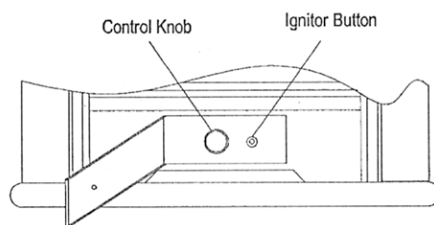

Figure 11 - Control Knob and Ignitor Button location
4. Wait five (5) minutes to clear out any gas. Then smell for gas, including near the floor. If you smell gas, STOP! Follow "B" in the safety information on page 2. If you don't smell gas, go to the next step.
5. Turn control knob counterclockwise ↻ to the PILOT position. Press in control knob for five seconds (see Figure 11).